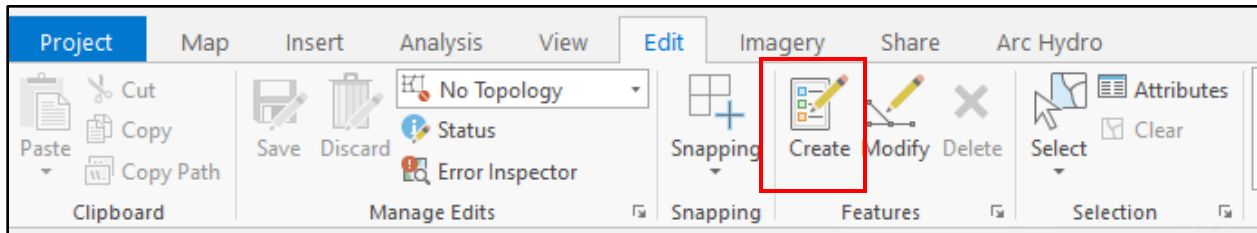

Figure 35. Create features button in ArcGIS Pro.
3. Select the "Edit" Tab then click "Create" (Figure 35, below).